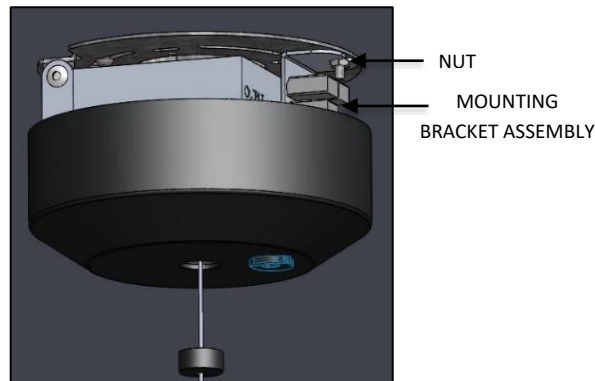

FIG. 9 – MOUNTING BRACKET
5. Tighten NUT to secure DRIVER MOUNTING BRACKET to MOUNTING PLATE. As shown below in fig. 9.